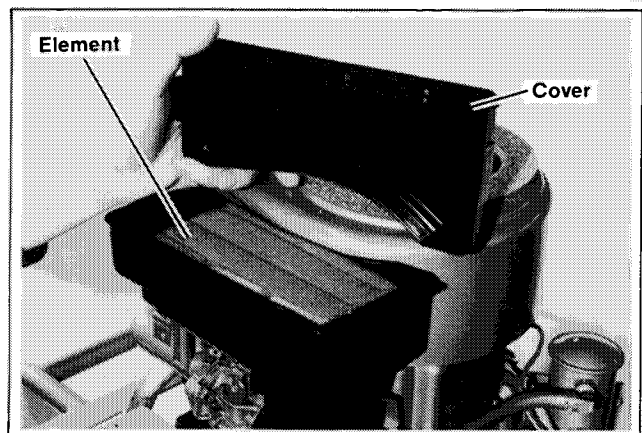

Figure 3-5. Air Cleaner Service
1. Unsnap air cleaner cover. Figure 3-5.